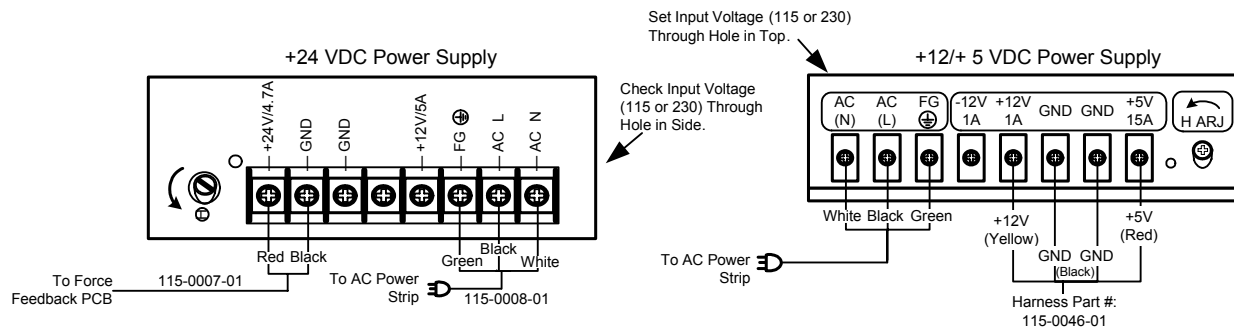

Figure 47. DC Power Supply Connections
6. Reverse the steps above to install the new power supply. Check the labels on each wire and be sure to connect them to the correct terminals. Refer to Figure 47, and the *Power Distribution Diagram* on page 79.